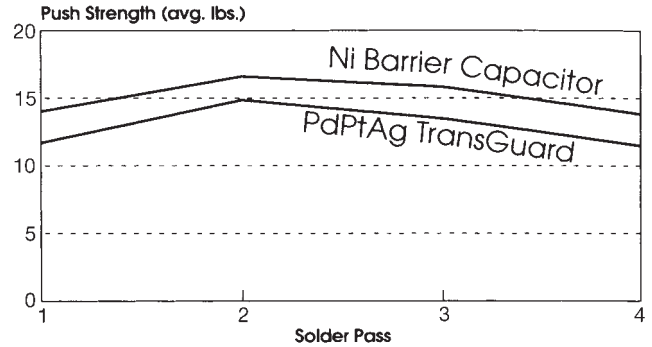

Figure 8. Lateral Push Strength Comparison PdPtAg vs. Ni Barrier
Additionally, TransGuards exceeded military push strength requirements when repeatedly passed through the soldering (IR) operation. A comparison between TransGuards PdPtAg termination push strength and a Ni barrier ceramic chip capacitor push strength is shown in Figure 8.